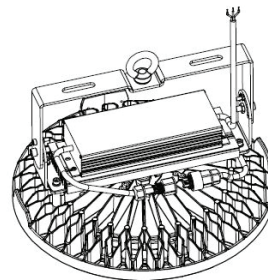

Figure 20
2. Screw off the I-type connector and remove the drive power output terminal wire from the I-type connector as shown in Figure 20.